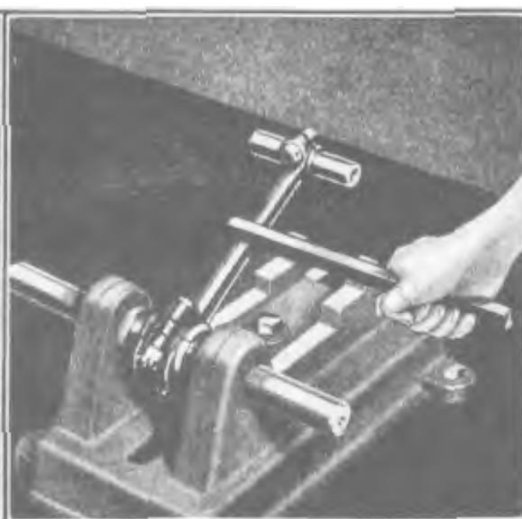

Fig. 235
- 392** If a rod is slightly sprung or twisted it can be straightened with a connecting rod straightening iron as shown in Fig. 235. When rod is O. K. it is assembled in piston and checked for alignment as described in Pars. 418 to 420.